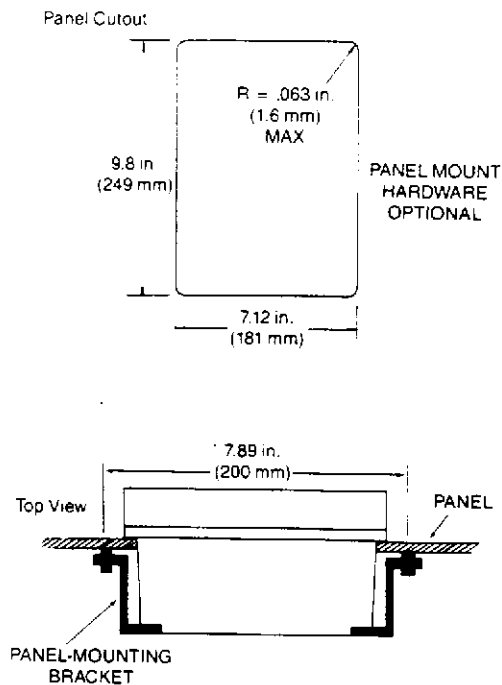

Figure 7. Panel Mount: Batch Controller Dimensions
An optional Kistler-Morse panel-mounting kit for the Batch Controller is available. See Figure 7 for panel-mounting dimensions and details.
- 2** Refer to Figure 7 for the panel cutout and bezel dimensions. Use standard shop practices when cutting the opening. Place the batcher enclosure in the cutout.